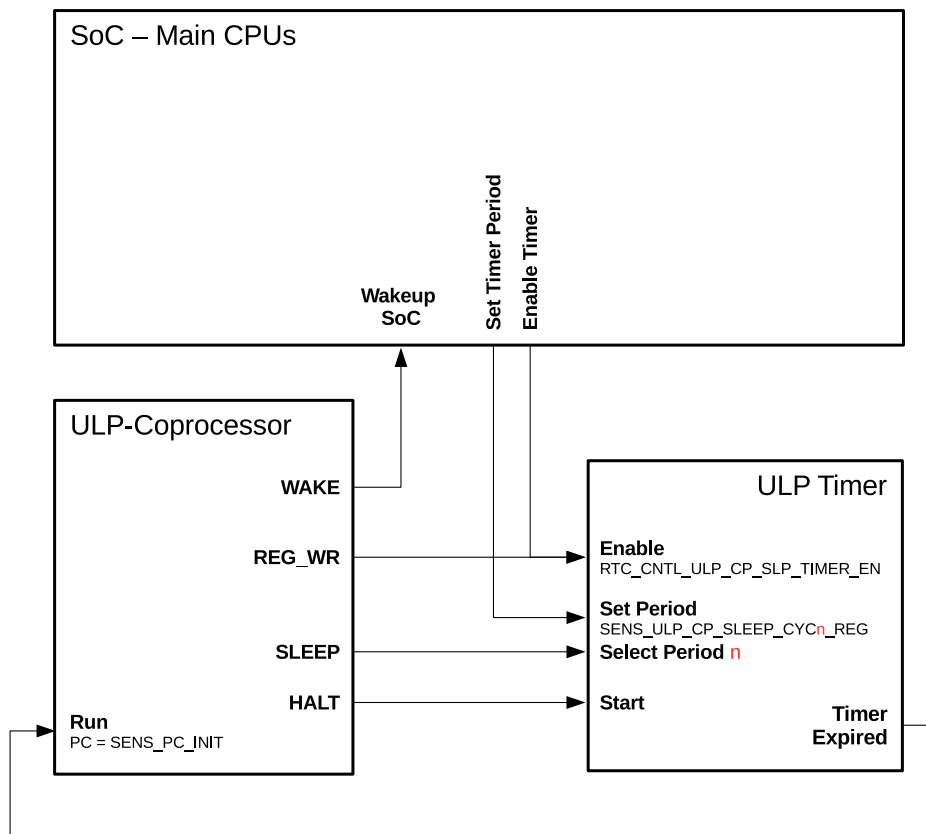

Figure 168: Control of ULP Program Execution
The ULP co-processor puts itself into sleep mode by executing the `HALT` instruction. This also triggers the ULP timer to start counting `RTC_SLOW_CLK` ticks which, by default, originate from an internal 150 kHz RC oscillator. Once the timer expires, the ULP co-processor is powered up and runs a program with the program counter (PC) which is stored in register `SENS_PC_INIT`. The relationship between the described signals and registers is shown in Figure 168.